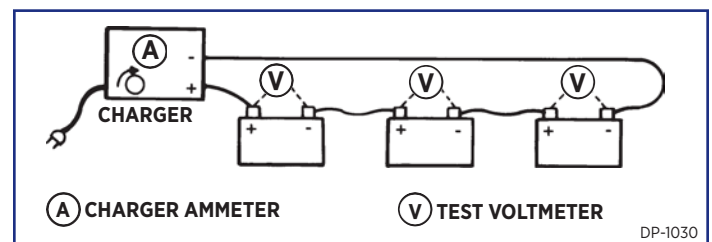

FIGURE 1.
With current-limiting, the batteries are connected so that each battery receives the same amount of charging current. (See Fig. 1 for typical hook-up.)
2. Connect batteries to charger as shown in Figure 1. Do not exceed the charger's voltage capabilities by connecting too many batteries. Make sure all connections are clean and tight. Set charging rate within 5-10 ampere range and maintain this charging rate throughout the charging procedure.
- b. Freedom batteries: Check for green dot indication. Shake or tilt batteries at hourly intervals to see if green dot will stay visible. Also check terminal voltage of each battery with test voltmeter connected, as shown in Figure 1. While on charge, if voltage across the battery is 16.0 volts or more, or if the green dot appears, remove battery from charger. Any battery that becomes hot (125° F, 52° C), as determined by touching and feeling the case, or any battery that violently gasses, should be removed from the charger for testing. Readjust control to maintain the same charging rate on remaining batteries as charged batteries are removed.